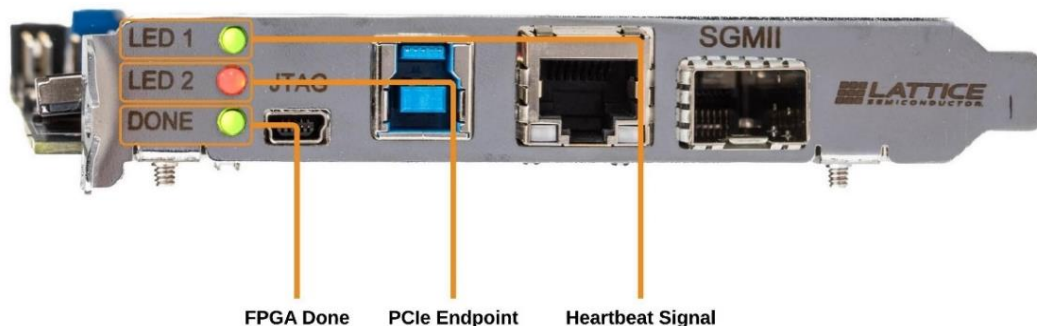

Figure 6.10. Front Facial LEDs Status
- The status of the three front facial LEDs (Figure 6.10) should be as follows: